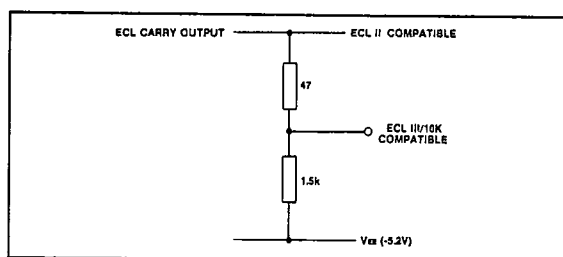

Fig. 7 ECL III/10K interfacing
4. The Carry O/P is ECL II compatible but can be interfaced ECL III/10K by the inclusion of two resistors. See Fig. 7.